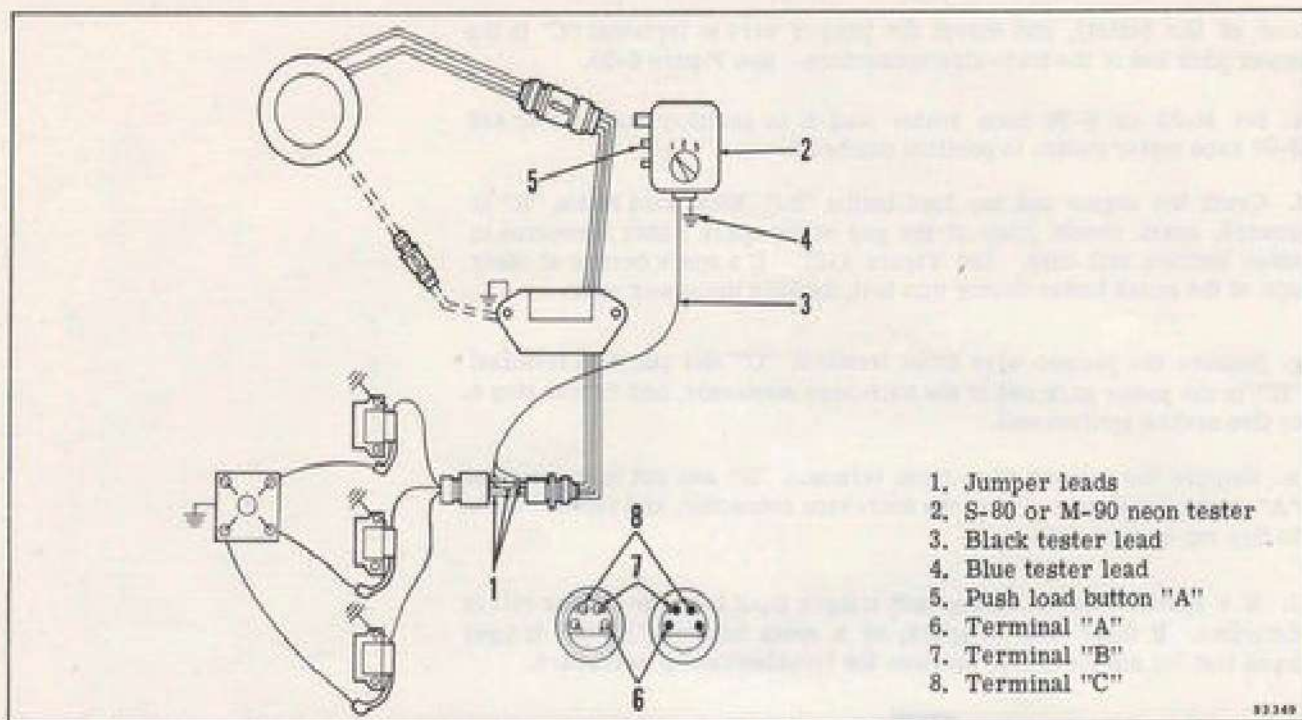

Figure 4-26. Power Pack Output Test
- b. Insert a jumper between the "B" terminals of both four-wire connectors. See Figure 4-26. Insert a jumper wire between the "C" terminals of both four-wire connectors.
- d. Connect a jumper wire to the neon tester black lead, and insert the jumper wire to terminal "A" in the power pack end of the connector. See Figure 4-26.